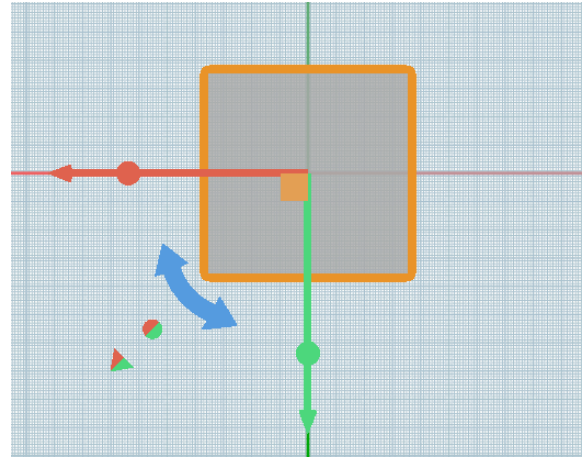

Figure 47 – GIZMO manipulators.
- rotate, move and scale a shape along two axes and one plane when the orthogonal view is active (Figure 47);